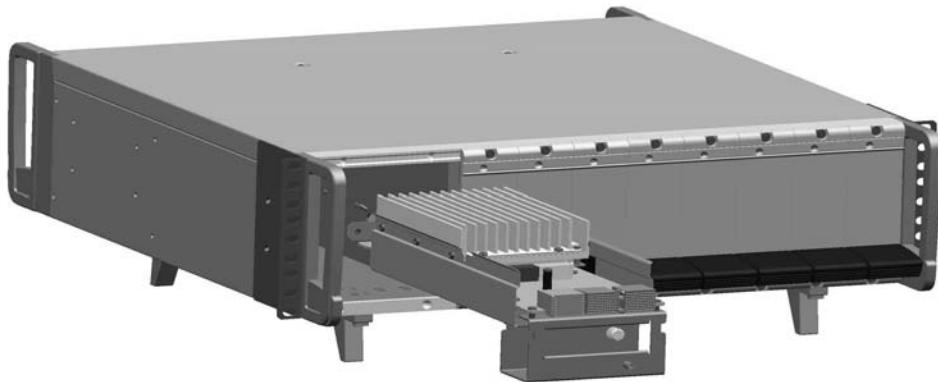

Figure 85: Changing the Main Controller Module
1. Turn the power to the unit to the 'OFF' (0) position.
3. Unscrew and pull out the controller module, as shown in Figure 85.